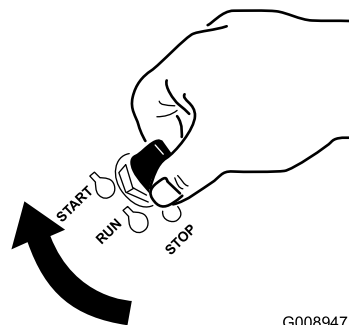

Figure 12
1. Turn the ignition key to the Start position (Figure 12). When the engine starts, release the key.
6. Turn the ignition key to the Start position (Figure 12). When the engine starts, release the key.